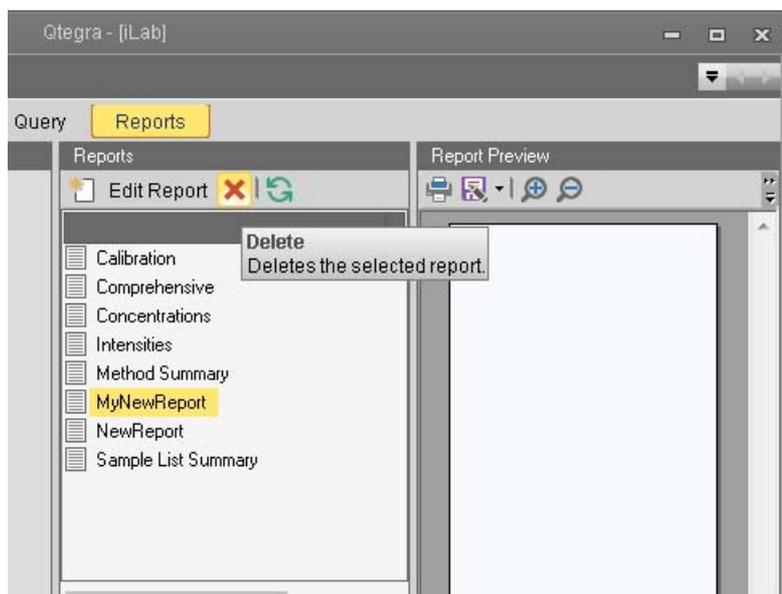

Figure 8-20. Reports page of completed LabBook, deleting Report
- 4. Select the Report template you wish to delete and click **Delete**, see Figure 8-20.